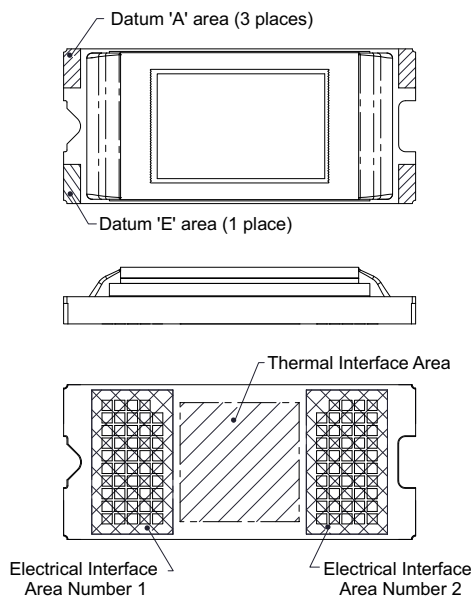

FIG 7-4. System Interface Loads for FQD
- (1) See セクション 13 for diagrams.
(2) See 図 7-4 for diagrams.
(3) See Mounting Concepts DLP4500FQE.
(4) See Mounting Concepts DLP4500FQD.